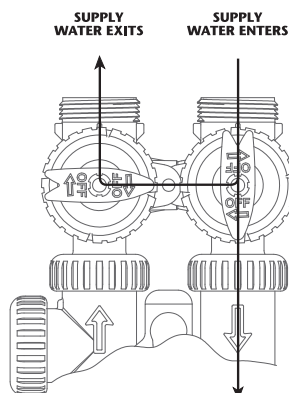

Figure 3
3. **DIAGNOSTIC POSITION:** The inlet handle points toward the control valve and the outlet handle points to the center of bypass valve. Untreated supply water is allowed to flow to the system and to the building, while not allowing water to exit from the system to the building (**Fig. 3**). This allows the service technician to draw brine and perform other tests without the test water going to the building.